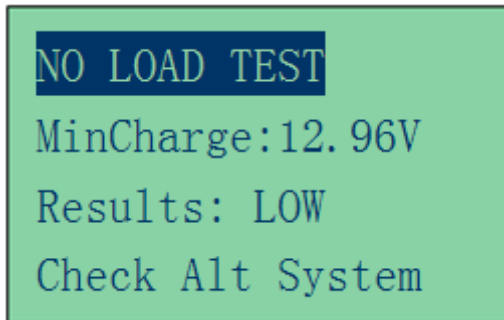

Figure 46
7. If either minimum or maximum charging volts are not within the voltage range limits then it will display one of the screen as below (Figures 46 & 47) and it will prompt you to check the alternator system for the fault.